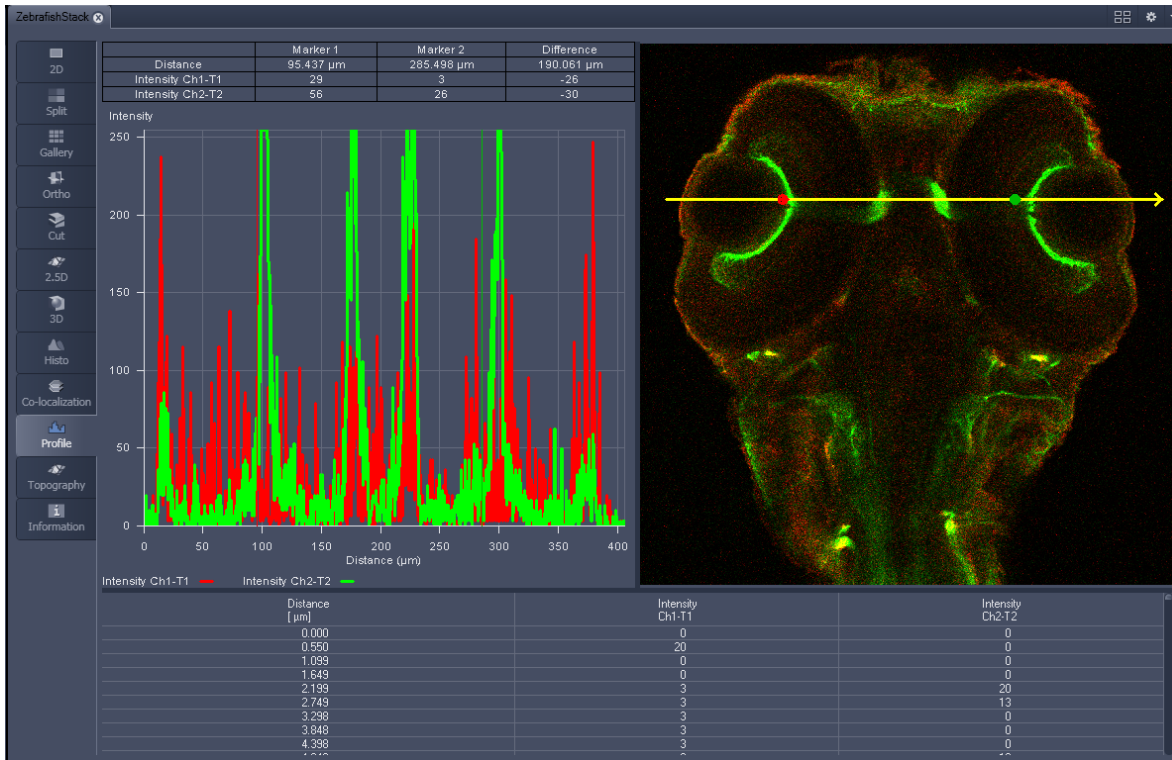

Fig. 672 Image Display - Profile View, Line Profile with markers
- Draw a Profile line in the image display to define a profile. The intensity curves are shown in a separate graph (see Fig. 672).